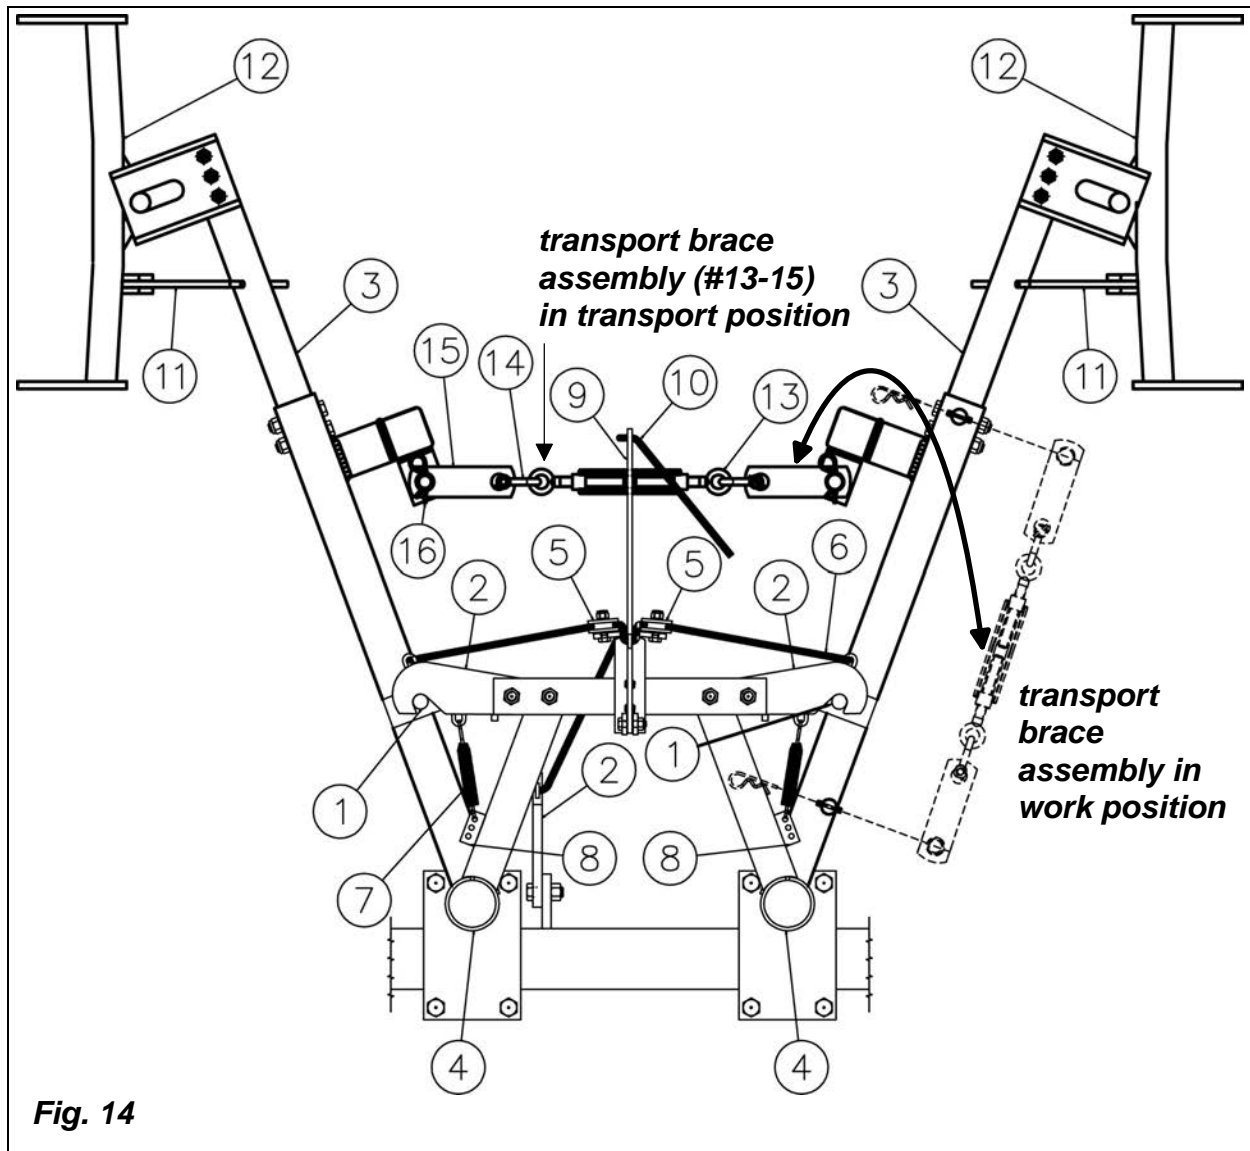

Fig. 14
To lock the mower decks into a secure position, do the following (see fig. 14):
To lower the mowers, proceed as follows (see fig. 14):
¹⁵ In the place of the pull rope (see #10, fig. 14), a hydraulic cylinder is available for automatically unhooking the three mowing decks. If your unit has this option proceed as follows: Using the first hydraulic remote, raise the three decks until the transport hooks disengage from the pins. Use the second remote attached to the optional unlocking kit to raise the hooks and keep them raised. Now use the first remote to lower the decks. When the mower decks have been lowered to the ground, use the second remote to release the hooks.
DANGER: Raise the three mower decks with the tractor hydraulics. Be sure all three automatic locking hooks are securely in place. Place the wing units in their 90 degree vertical position with the transport locks (see #11, fig. 14).
Stop the engine, lock parking brake and remove key and place the transport brace assembly in the transport position (see #13-15, fig. 14). Never rely on the hydraulics alone to support the raised decks. Always use gloves and safety glasses when performing any maintenance. Keep fingers out of slots to prevent injury.
7. Never trust the hydraulic pressure alone to maintain the mowers in the raised position. When servicing the Flex with the mowers in the raised positions always lock the wings with the three automatic locking hooks and place the transport brace assembly in the transport position (**see fig. 14**).